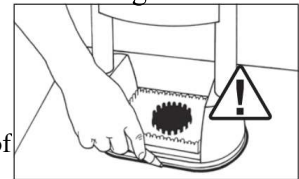

Figure 6
- While the tool is activated (welding), trace around the base of the tool with a grease pencil. This will help you judge your accuracy in centering the coil over the plate. (Figure 6)